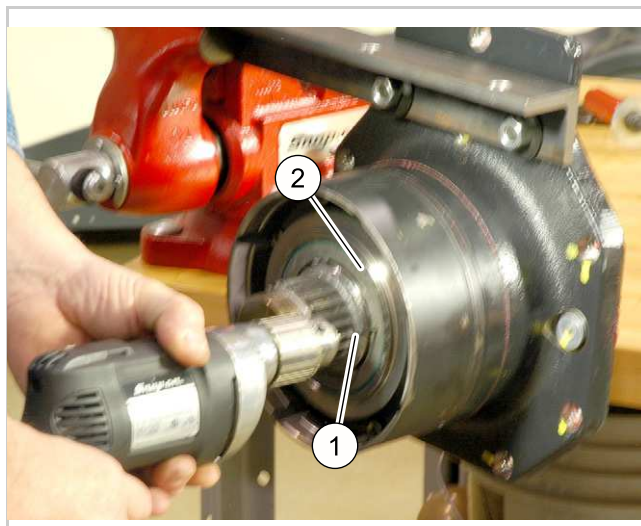

Fig. 15 (26422)
11. To prevent the hub and drive unit from turning, put a pry bar (2) between one of the lugnuts and the drive unit tool (1).
12. Turn the rod on the drive unit tool (1) and hold the pry bar (2), and remove the hub.
14. See Figure 15. Use a 3 mm (0.125 in) drill bit (1). Make two holes 180° apart through the outer surface of the oil seal (2).